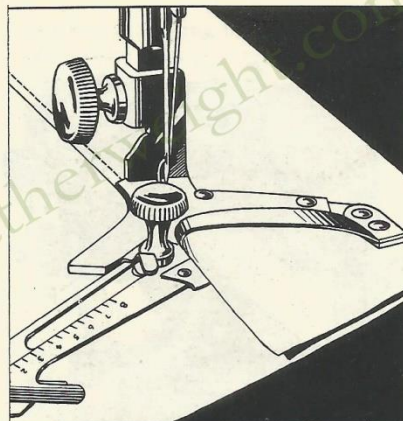

Fig. 53. Showing How Adjustable Hemmer is Used for Making Hems Wider than $\frac{15}{16}$ Inch
1. Loosen the thumb screw on the hemmer, move the scale to the right as far as it will go, then swing it toward you, as shown in Fig. 53, and tighten the thumb screw.
3. Place the fold under the extension at the right of the hemmer and the edge into the folder, as shown in Fig. 53.